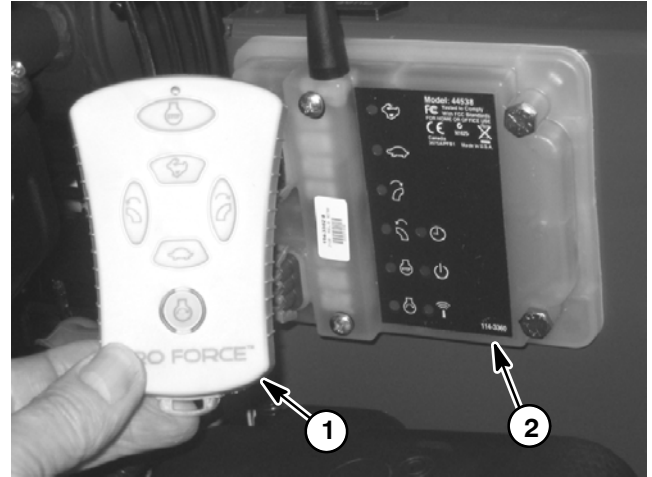

Figure 18
The remote transmitter is a solid state electrical device that sends radio frequency (RF) signal inputs to the machine control module for control of machine electrical operation (Fig. 18). The remote transmitter has sufficient range to send an RF signal to the control module from the tow vehicle operator position.